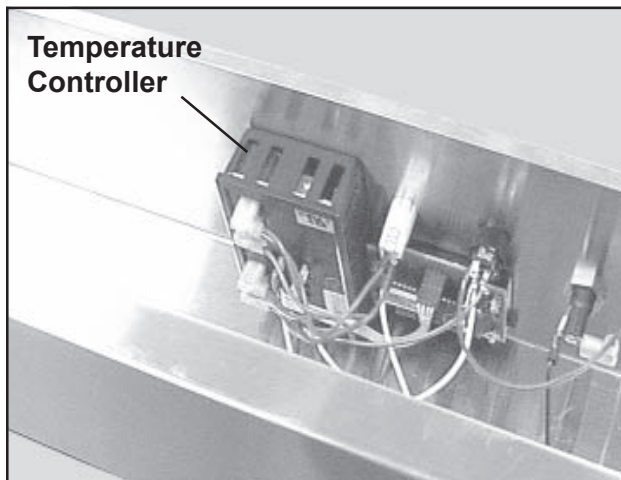

Figure 23. Temperature Control Assembly
7. Pull the temperature control assembly shaft out of its mounting hole and position the assembly in the housing so that you can work on it comfortably (Figure 23).
9. Place the temperature control assembly shaft through the front of the housing, with the assembly oriented as shown in Figure 23.
4. Place the temperature control assembly shaft through the front of the housing, with the assembly oriented as shown in Figure 23.